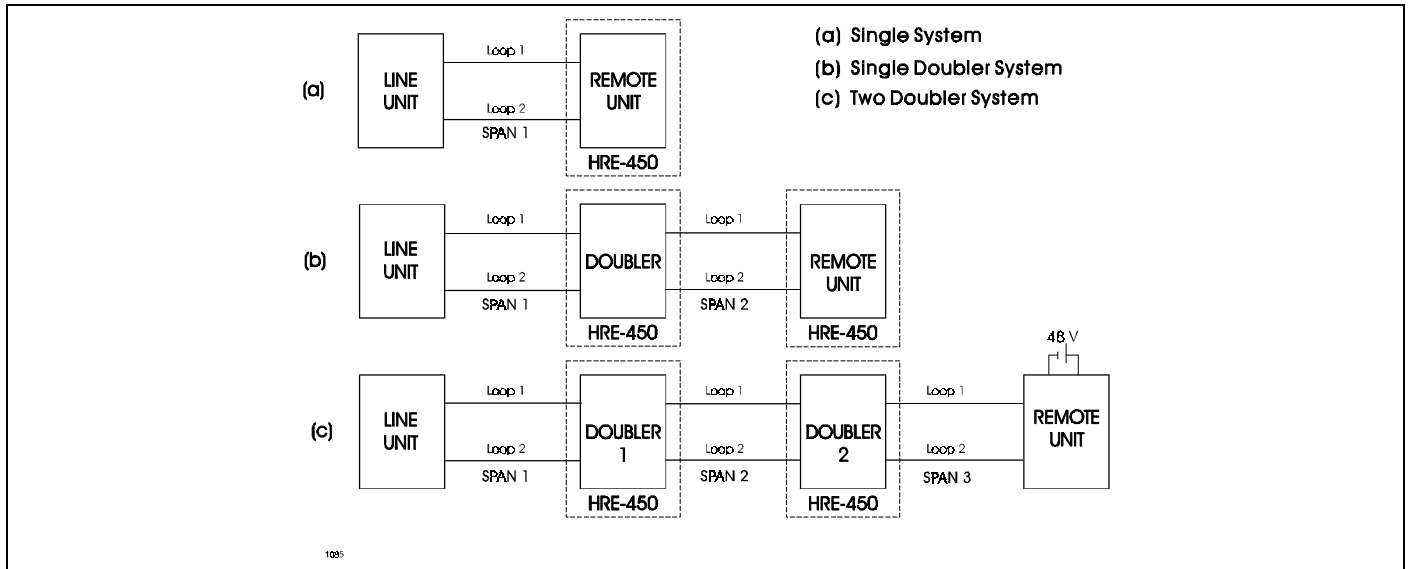

Figure 4. HRE-450 Use in HiGain 400-Series System Configurations.
3.02 System application. The HRE-450 encloses and connects doublers and remote units as a single remote unit, a single doubler system, or as a two doubler system (Figure 4).
Note: The HRE-450 is not designed to provide local 48V power to its enclosed remote module as required in configuration (c) in Figure 4. It is therefore not recommended that the HRE-450 be used for housing a locally-powered remote as shown in example (c).